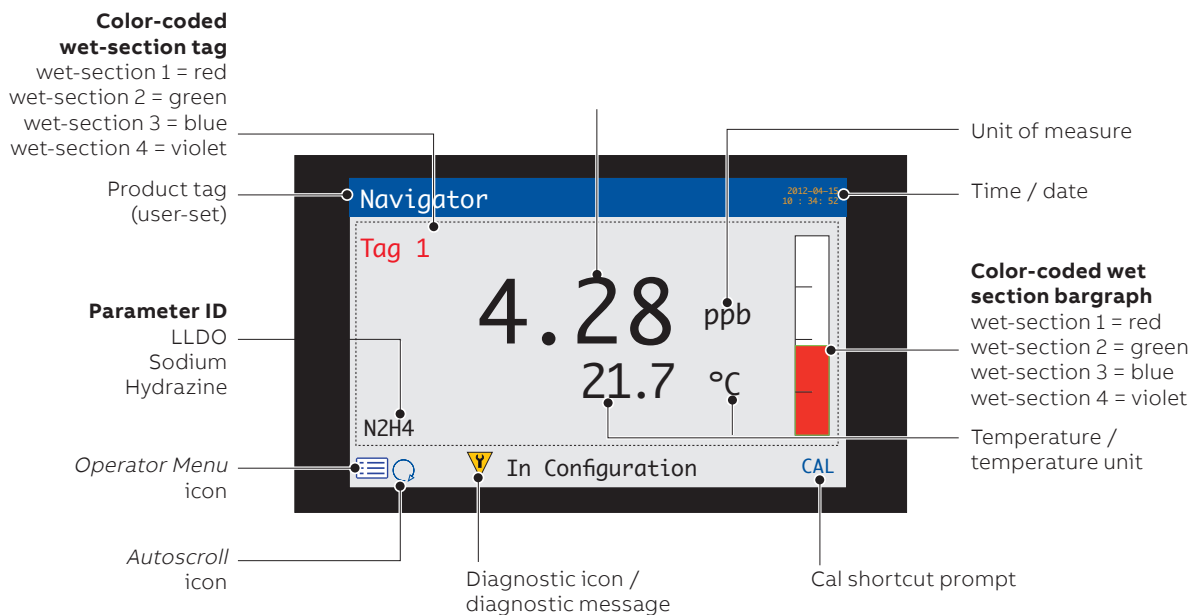

Fig. 6.5 Operator Pages 2 to 5 – overview
Fig. 6.5 shows an overview of *Operator Pages 2 to 5*. Each *Operator Page* displays the process value (PV) and temperature from a single wet-section. Fixed, color-coded, user-assignable tags (one for each fitted wet-section) and color-coded bargraphs aid identification of each wet-section.